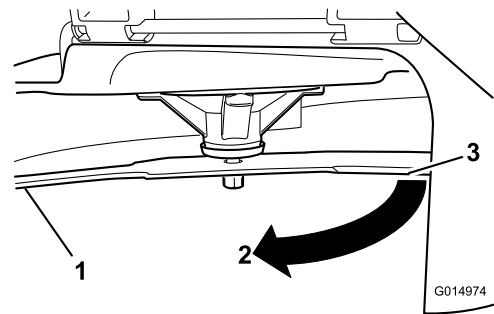

Figure 89
3. Measured distance between blade and the surface (A)
4. Rotate the same blade 180 degrees so that the opposing cutting edge is now in the same position (Figure 89).